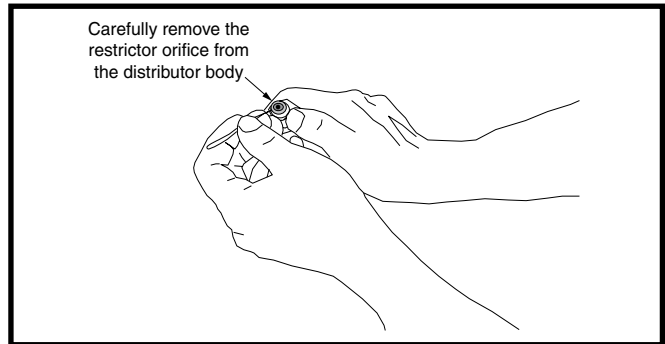

Figure 8. Removal of Orifice
6. Insert the new orifice into the distributor body, rounded end down. See Figure 8.